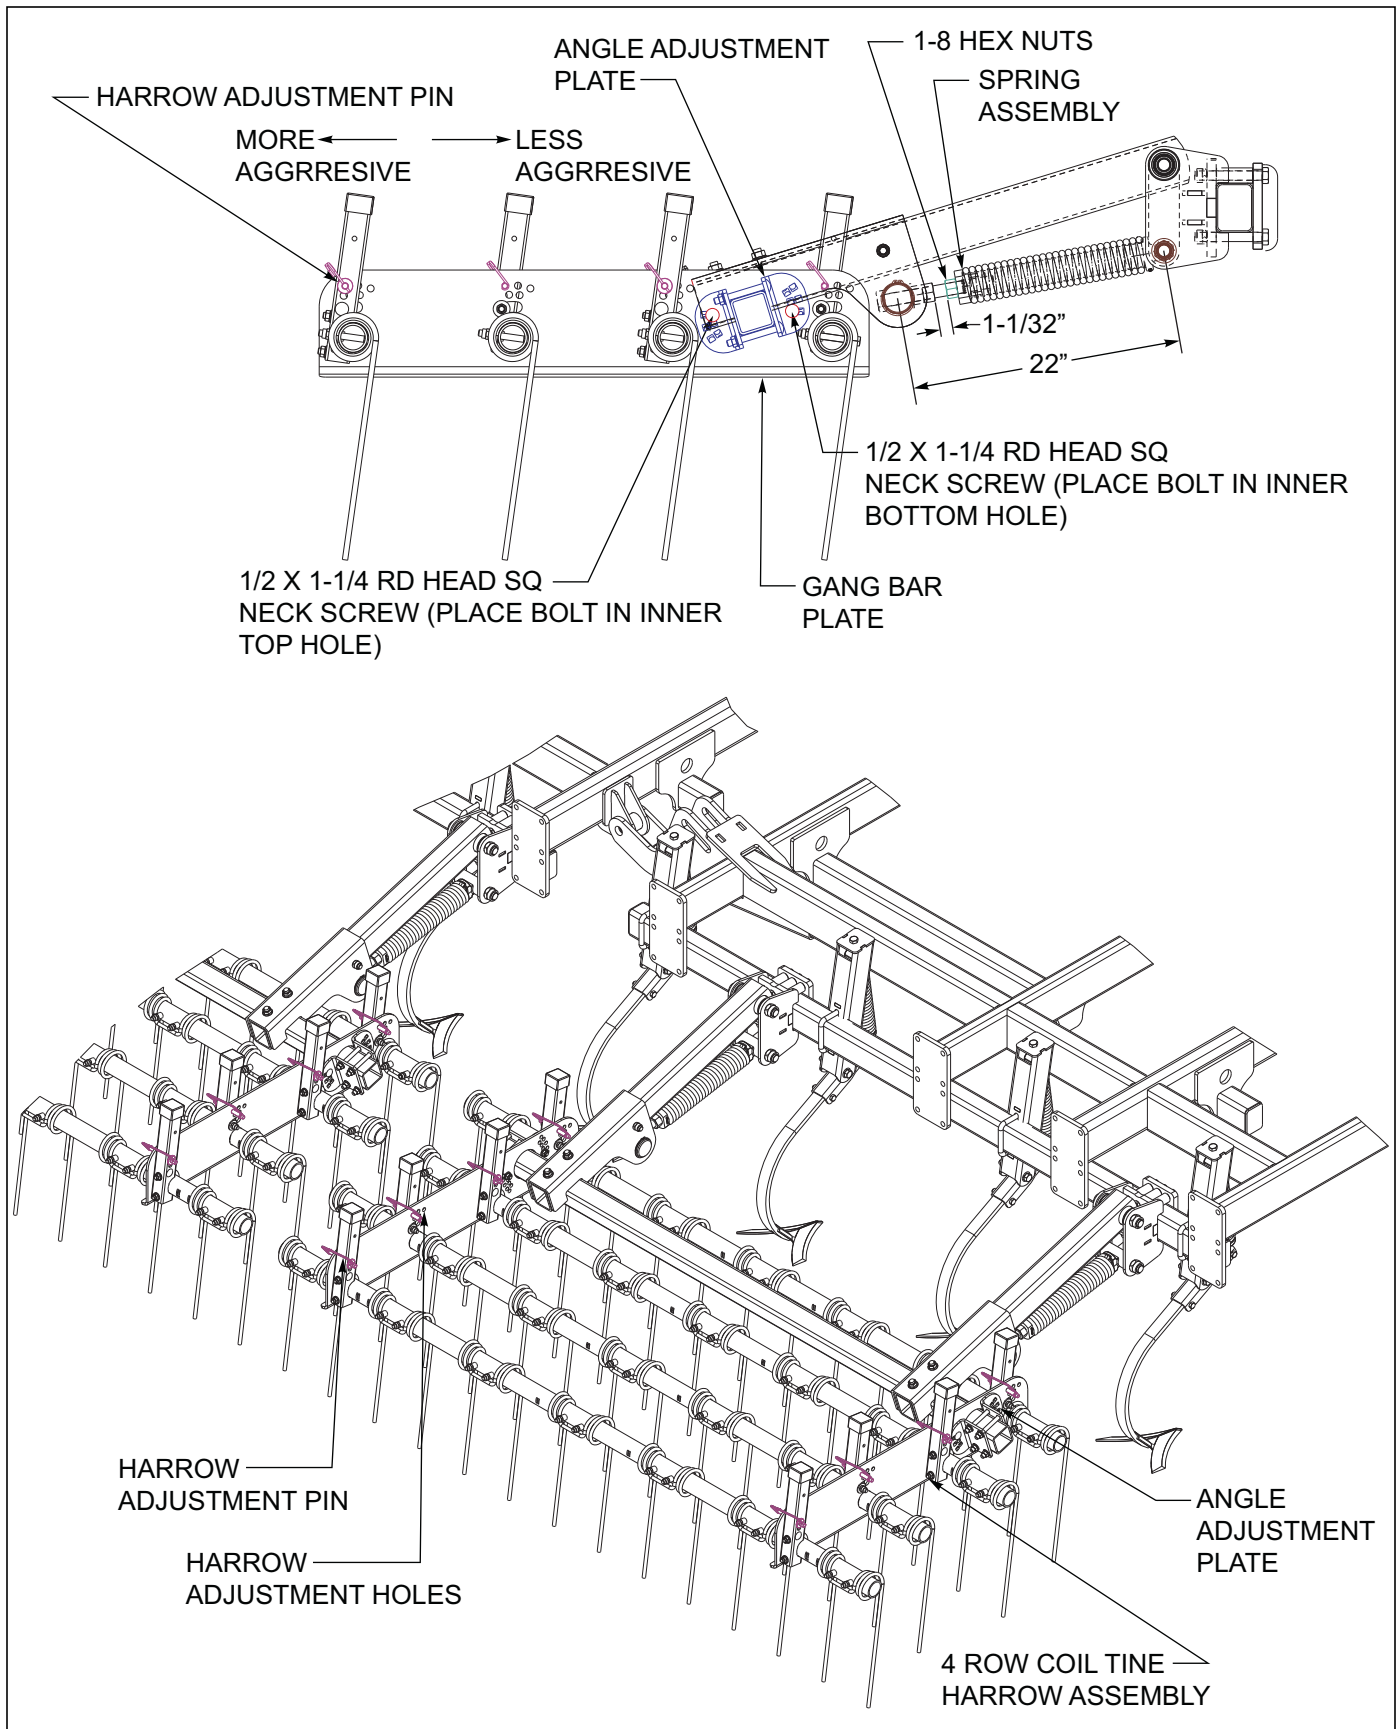

Figure 4-23: 4 Row Coil Tine Adjustment
2. In general tine harrows have better capabilities for handling more residue and wetter conditions. When operating the coil tine harrow, a more vertical tine tooth angle will make the harrow more aggressive. A lower/flatter tine angle will make the harrow less aggressive but will handle more residue and wetter conditions. To change the tine angle, raise the harrow off the ground. Remove the harrow pin from both angle adjustment tubes per tine gang bar tube **See Figure 4-23..** Rotate the angle adjustment tubes forward (less aggressive) or rearward (more aggressive) and reinstall both spring clip pins. Repeat the tine adjustment for each tine gangbar tube and harrow section.
5. The initial setting for the spring assembly should be 22". Each harrow section may also be adjusted for operating height. To change the harrow height **See Figure 4-23.**, loosen both 1-8 hex nuts against the spring end. Raise or lower the harrow arm by turning the bolt head for the spring adjustment bolt. Then re-tighten the 1-8 hex nuts. When initially setting the harrow height, the bottom tips of the tine tooth (pulled back at the desired tooth angle) should be approximately level with the field cultivator sweeps.